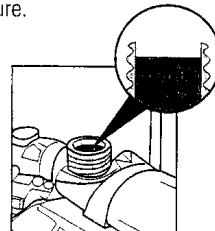

Fig 15
3) Pour in the water until you see water get near the top of the neck of the tank (Fig 15). Stop pouring water when you get to about one-quarter inch from the top.